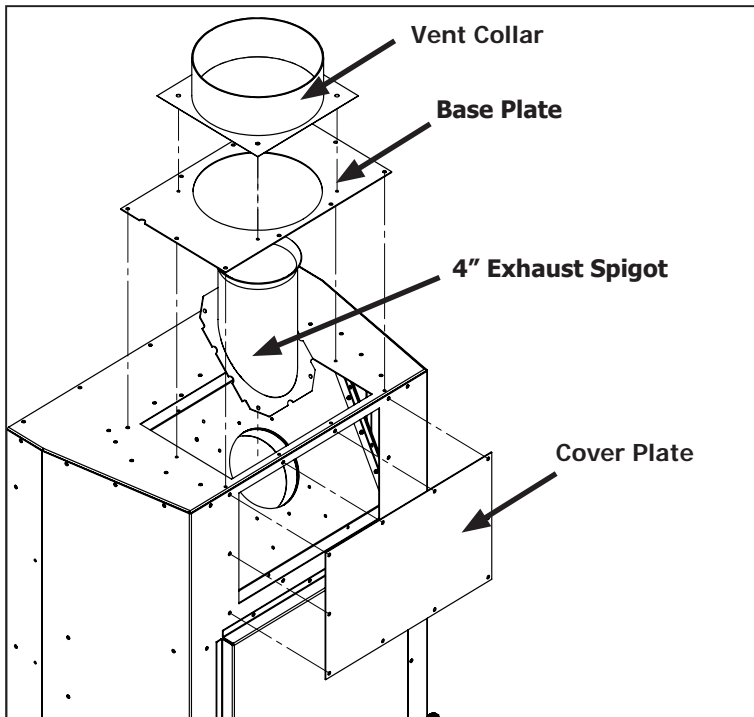

Figure 50: Removal of Co-Axial Venting parts
Step 1: Using a T20 screwdriver remove the vent collar, base plate, cover plate and 4" exhaust spigot (28 screws total) as shown in Figure 50. The vent collar, base plate, and 4" exhaust spigot will no longer be used.